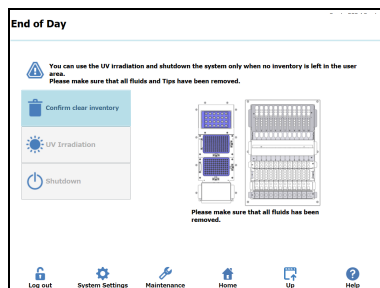

Figure 18: End of Day screen
26. On the Home screen, select "End of Day". The following screen is shown (Figure 18).